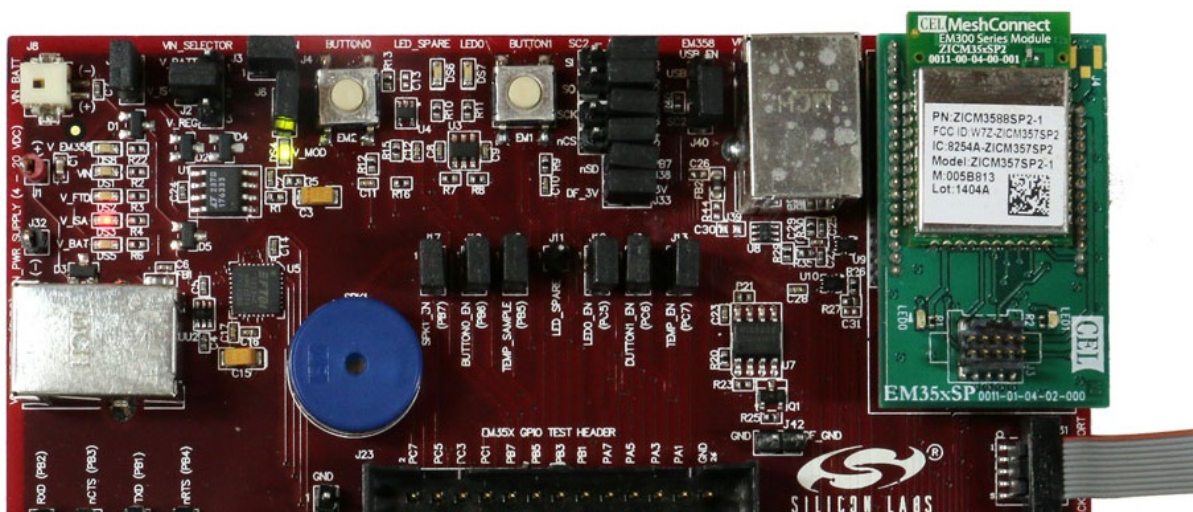

Figure 7. Breakout Board Power Supplied by Debug Adapter (ISA3)
- Breakout Board Power Supplied by Debug Adapter (ISA3) (Figure 7): The default configuration is to supply power via the Debug Adapter (ISA3) and Packet Trace Port cable. Ensure the power switch on the Debug Adapter (ISA3) is in the INT (Internal) position. The power supply of the Debug Adapter (ISA3) is also controlled via the admin interface. You may need to connect to the admin port of the Debug Adapter (ISA3) and issue the “power on” command. No external power supply should be connected to the Breakout Board when supplying power from the Debug Adapter (ISA3). The power supply jumper on the Breakout Board should be in the horizontal position, connecting V_ISA to the center pin. The V_ISA LED (DS3) will illuminate when power is applied.